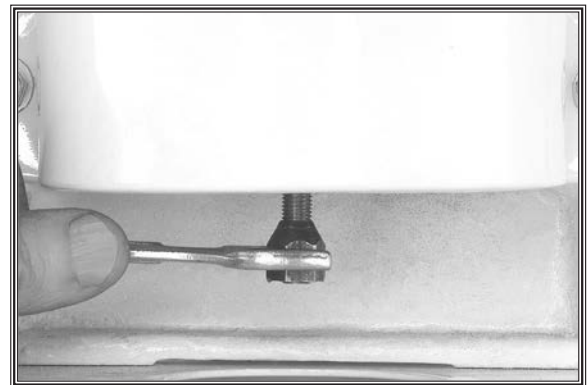

Figure 43. Removing taper nut from drawbar.
4. Loosen and remove the taper nut (see **Figure 43**) while holding the top of the spindle with a wrench.